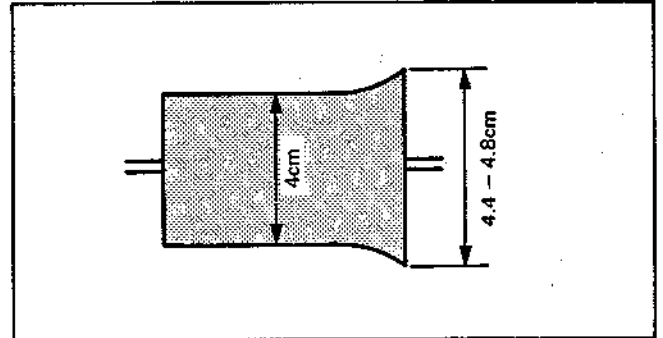

Fig. 2-19 No. 5 Guide Waveform
- 6) Turn No. 5 guide adjustment nut clockwise so that the RF output waveform is as shown in Fig. 2-19.